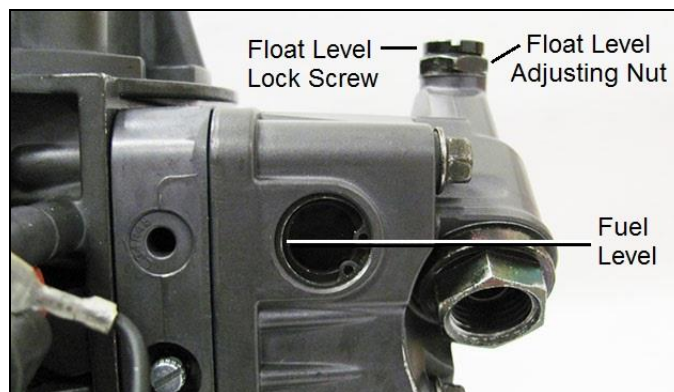

Figure 7
2. Observe the sight glass for the fuel level. If none is seen, the level is too low. If it is higher than the middle of the sight window, it is too high. **NOTE:** A properly set float level will have the fuel level located at the middle or slightly below the middle of the sight window, as shown by the line in **Figure 7**.